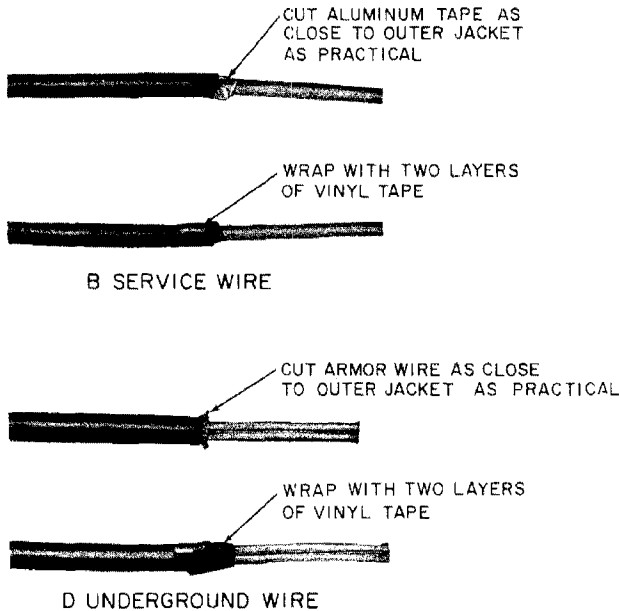

Fig. 3—Removal of Aluminum Tape or Armor Wire
2.04 Where the buried wire is 500 feet or less in length, grounding of the armor wire or aluminum tape at the cable terminal is omitted. Cut off the armor wire or aluminum tape and wrap with two turns of vinyl tape to protect against sharp edges (Fig. 3).
3.02 D Underground Wire can be used with or fed from multiple wire where the multiple wire is exposed to power contact and fuseless station protection is used. D Underground Wire should be brought up a pole and terminated in a 101B2 Wire Terminal. At the groundline the wire should be covered with an 8-foot length of No. 0 U Cable Guard. Cut off the armor wire as shown in Fig. 3. Connect the conductors of D Underground Wire to the conductors of the multiple wire with